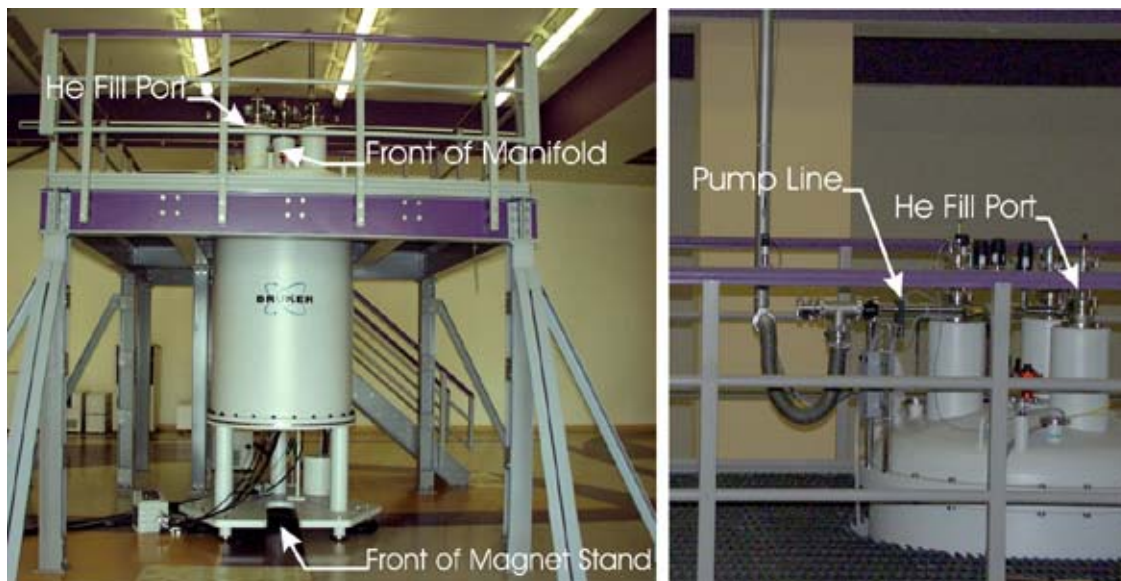

Figure 9.2: Magnet Orientation
- **Magnet pump line:** The magnet pump line connects to the back of the manifold (see Figure 9.2).